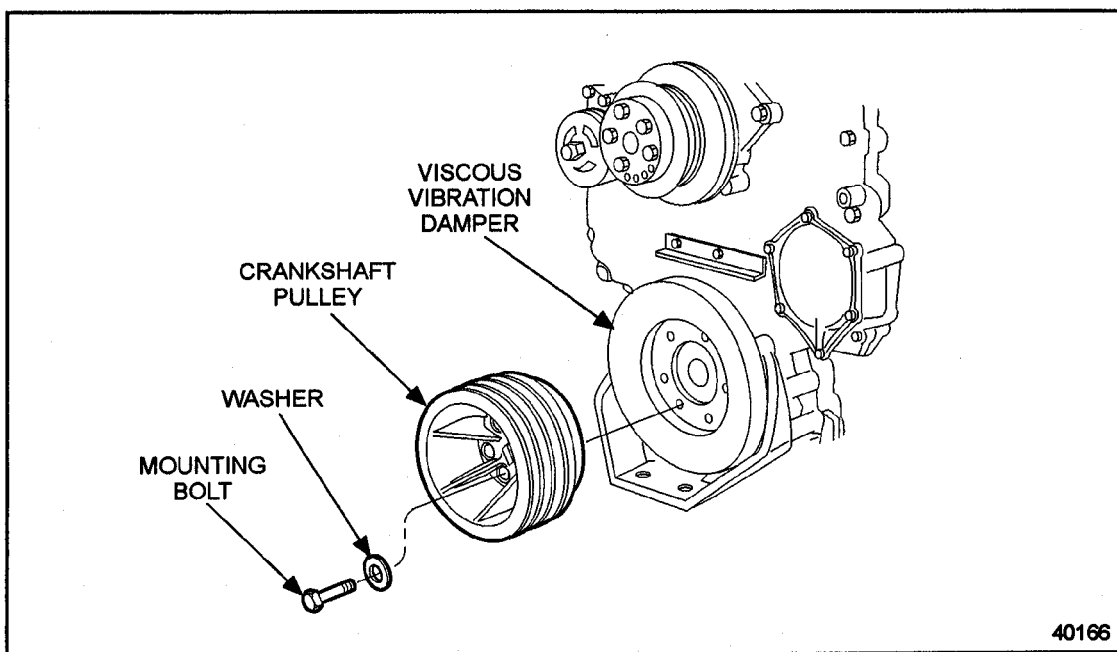

Figure 1-217 Crankshaft Pulley Mounted Directly to the Crankshaft
7. Install four new special crankshaft pulley-to-crankshaft attaching bolts with hardened washers installed, through the pulley and damper and into the crankshaft. Finger tighten the bolts. See Figure 1-217.